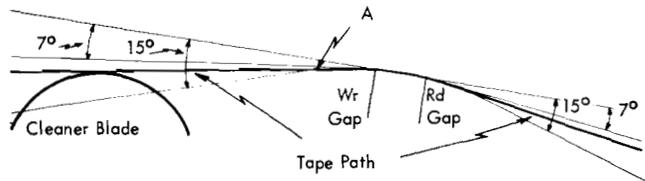

Figure 21. Tape Cleaner Wrap Angle
3. Unload the drive and observe the head; the powder will be wiped off the head where the tape has contacted the surface. Visual inspection should show that the apex at point A (Figure 21) has been wiped completely clean, indicating a tape approach of just over 7° .